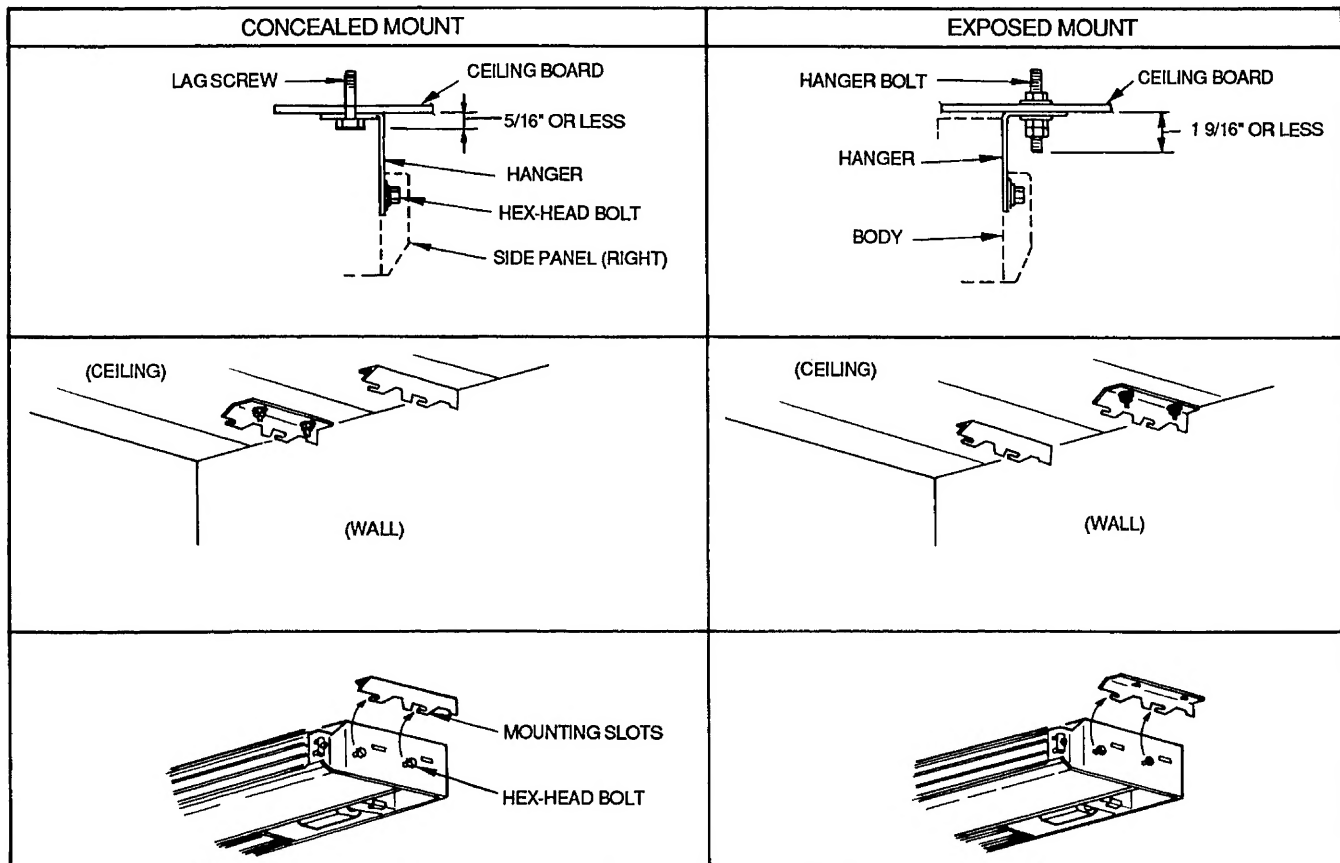

Fig. 10 - Mounting Ceiling Brackets
5. Mount hanging brackets on ceiling (Fig. 10) for either concealed or exposed bolt hanging position.